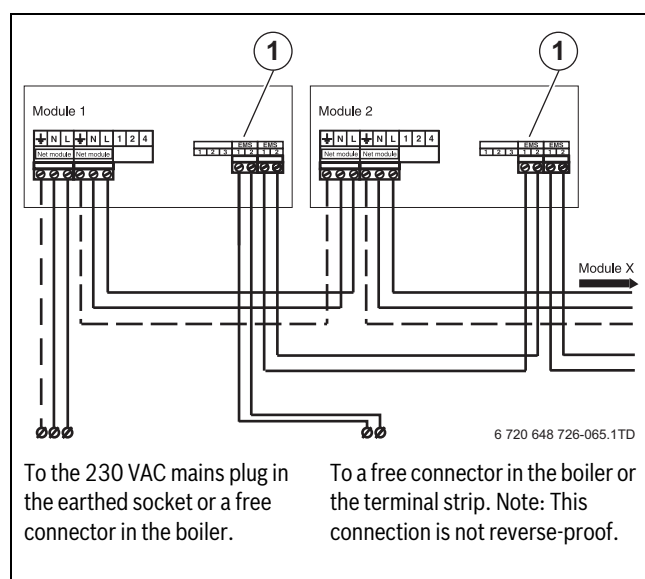

Fig. 65 Connecting several modules
- ▶ If more modules are used, the EMS bus connection for the second module may be branched off from the first module using the cable enclosed with the module (→ fig. 65 and 66).
- ▶ Connect the wire from terminal 1 to terminal 1 and from terminal 2 to terminal 2 (→ fig. 65 and 66).
- ▶ Connect the other end of the EMS bus connection cable to the first module (→ fig. 65).
The module may have the letters RC or EMS above the connection (→ fig. 65, [1]).
- ▶ Connect the EMS bus connection lead of the first module to the next module (→ fig. 65).
- ▶ Connect the 230 VAC mains cable to the module (→ fig. 65). If more modules are used, the 230 VAC supply to the next module can be branched off from the previous module using the connector enclosed with the module and a 3-core 0.75-mm² current cable with an earthing wire.
- ▶ Connect the 230 VAC supply cable of the previous module to the next module (→ fig. 65).